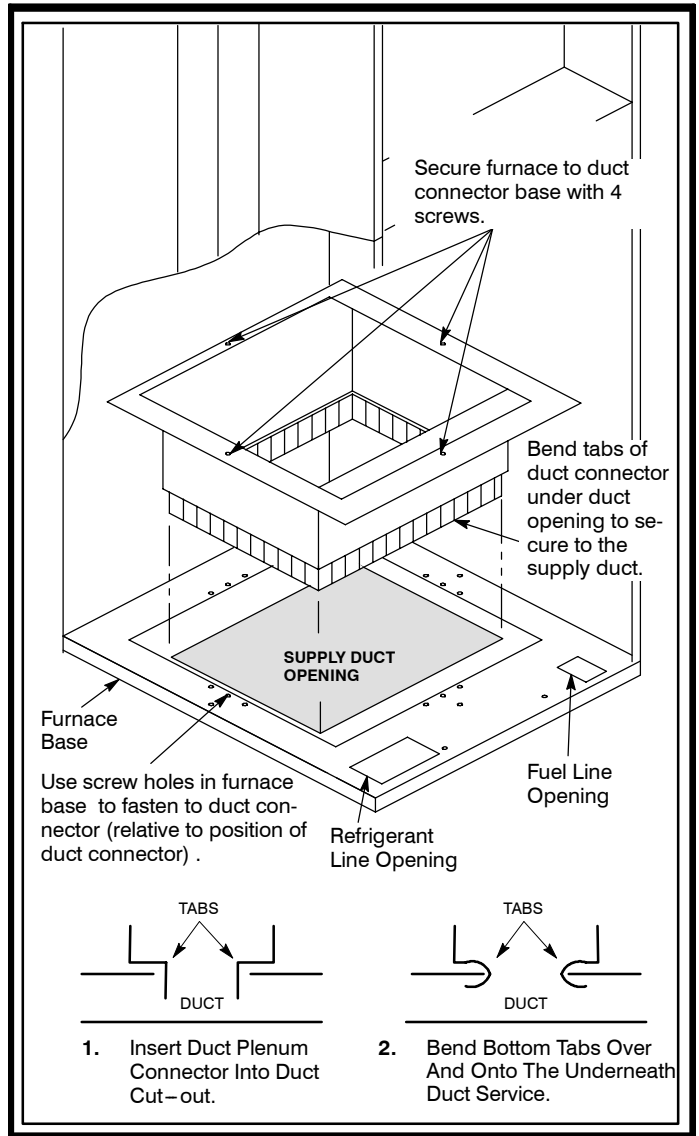

Figure 14 — Duct Connector
Secure duct connector to floor with four (4) sheet metal screws using holes provided in the connector. See Figure 14.
Secure furnace to wall at top by using metal strap provided. (See Figure 14.)